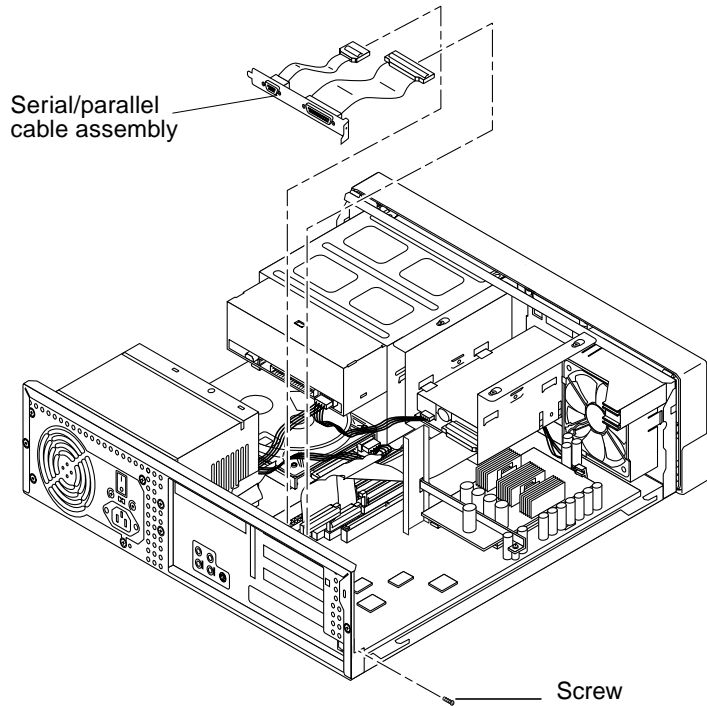

FIGURE 6-4 Removing and Replacing the Serial/Parallel Cable Assembly
2. **Remove the serial/parallel cable assembly as follows (FIGURE 6-4):**
1. Replace the serial/parallel cable assembly as follows (FIGURE 6-4):